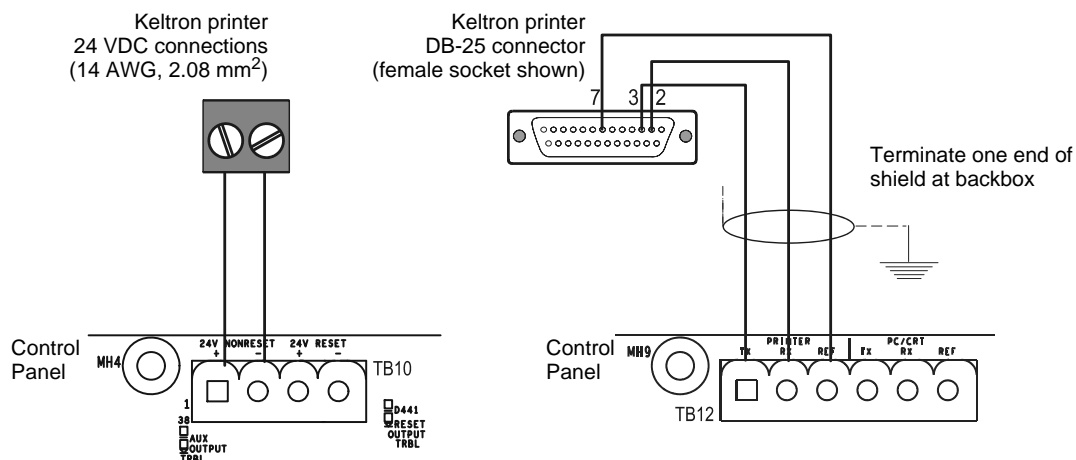

Figure 3.26 Keltron Printer Connections
1. Connect the three (3) open leads of the custom cable to the TB12 terminal block on the control panel as shown in Figure 3.26.
2. Connect DC power from TB10 terminal block on the control panel as shown in Figure 3.26.